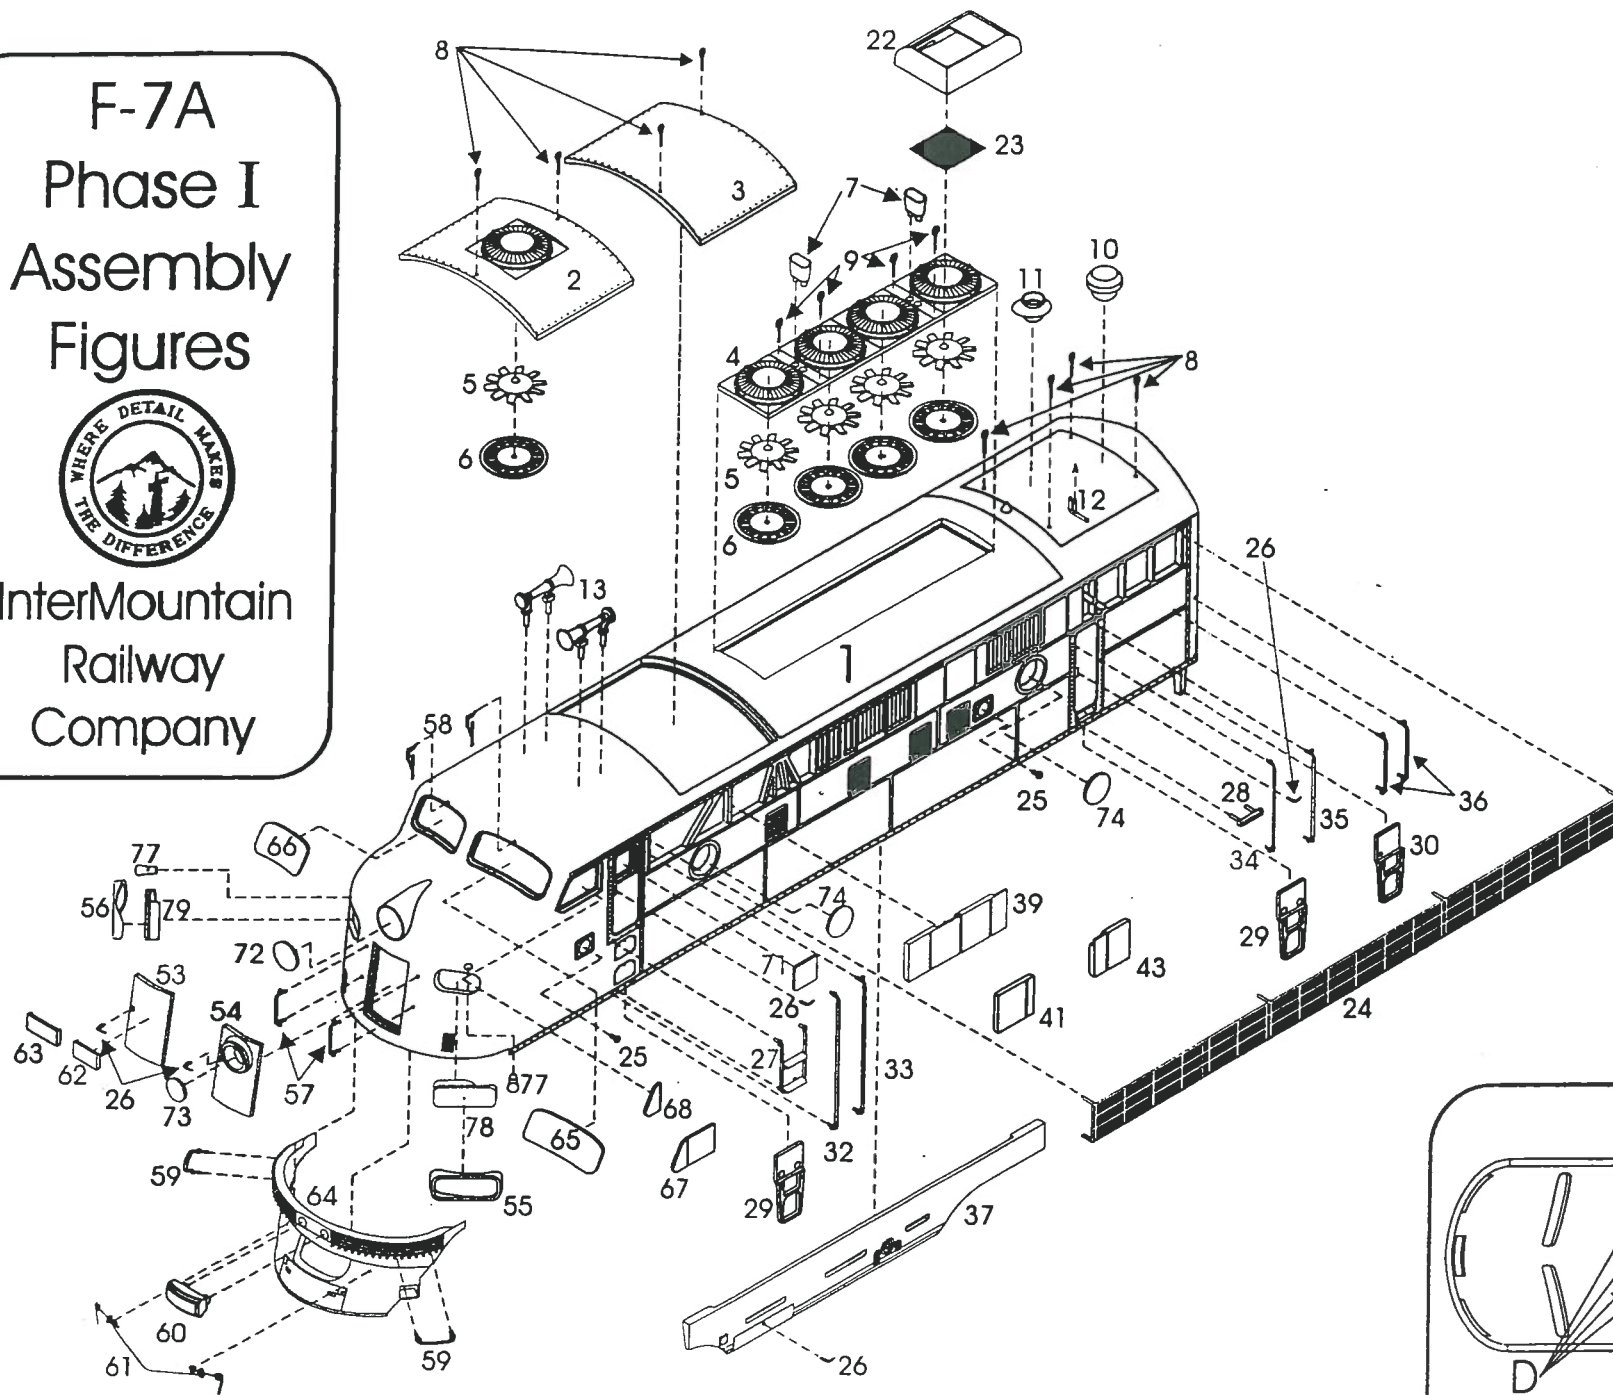

Fig. 1: Exploded View
2. Remove the Pilot (64) from its runner, and install the pilot **Buffer** (60) in the two locator holes in the top center of the front of the pilot. Mount the pilot assembly **on the body** as shown in Figure 1. Be sure to test fit before gluing.
3. Assemble the Fan Housing (4) by installing the Fan Blades (5) and Fan Blade Retainers in the fan housing. One side of the fan blade hub extends out from **the blades**. This is the side that is inserted into the fan housing. Turn the fan housing upside down **and insert** the fan blades. Place the fan blade retainers over the fan blades and glue in place. **Remove any existing flash** from the edges of the fan housing opening on the body, test fit the fan housing **assembly**, and glue in place.
4. Determine whether you are going to use dynamic or non-**dynamic** brakes on your model. Remove the appropriate hatch (Dynamic Brake Hatch (2) or Non-**dynamic** Brake Hatch (3)) from the sprue. If your model has dynamic brakes, install the fan blade **and fan blade retainer** using the method described in step 3. Test fit the brake hatch and glue in **place**.
a. Non-dynamic brakes - Install the two Large Panels (39 and 40) in the center of the forward side openings of the body, referring to Figure 1. Align the grooves **on the backs** of the panels with the reinforcing ribs in the openings on the body.
6. Install Left Skirt (37) and Right Skirt (38) on the body, using **the locating** notches on the low inside of the body. The long wheel cutout on each skirt is to the **rear of the body** and the short cutout is to the front. (The wedge shaped protrusions at the two **ends of** the skirts are designed to mount the locomotive on a Stewart/Kato drive. If you are going **to use** an Athearn drive, these wedges must be removed. The body then mounts on an Athearn **drive** using the center slots in the skirts.)
7. Determine which Nose Door (53 or 54) is used on the **prototype** you are modeling, and install in the door opening in the nose. (See Figure 1).
8. Determine whether the Rear Door (45 or 46) on your **prototype** has a round window or square window, and install the appropriate door in the door opening **in the rear** of the body. Install the End Post Assembly (47) around the rear door using the six locator **holes in the rear** of the body. (Typically, rear doors with square windows were used until October, 1950. After this, rear doors with round windows were usually used.)
9. Install two Exhaust Stacks (7) in the locator holes in the fan housing, one between the first and second fans, and the other between the third and fourth fans.
10. Install side sill steps (or "stirrups") in the six locator notches on the inside lower edge of the body. Note that four of the Center Side Sill Steps (29) are to be installed in the two front and two center positions. Position the Left Rear Side Sill Step (30) and the Right Rear Side Sill Step (31) so that the notches face to the rear of the locomotive.
11. Determine if the prototype you are modeling has a Winterization Duct (22). If so, install the Winterization Duct Grate (23) inside the winterization duct and then install the winterization duct assembly over the rear fan.
12. Install the Rear Door Grab (48) using the two locators to the right side of the rear door. Install Door Safety Gate (49) using locator hole on left side of rear door. Door safety gate may be installed in vertical (open) or horizontal (closed) orientation. It's your choice. Install two Rear Grabs (51) using the two locator holes on either side of the rear of the unit.
13. Install the two horizontal Pilot Anti-Climber Grab Irons (59) using the two locator holes on either side of the top of the pilot. (Please note that the pilot anti-climber grab irons are curved to follow the contour of the pilot.) Install the two vertical Nose Door Grab Irons (57) using the two locator holes on either side of the nose door. The locators during installation of the nose door grab irons should be exactly horizontal. Be careful, it is possible to install these grab irons upside down. If your prototype has a front Number Plate (62 or 63), install appropriate number plate in correct location.
15. Install six Small Eye Bolts (8) using two locator holes in the brake housing and four locator holes in steam generator panel. Install four Large Eye Bolts (9) using locator holes in fan housing.
16. Install two Small Side Door Steps (28), one beneath each rear side door (or "side access door.") Install two Large Side Door Steps (27), one beneath each front side door (or "cab door.")
17. Install a Left Long Grab Iron (32) and a Right Long Grab Iron (33) on the correct side of the two cab doors. The upper mounting brackets for each of these grab irons point out slightly at an angle away from the door. The lower mounting brackets are "square". Install a Left Medium Grab Iron (34) and a Right Medium Grab Iron (35) on the correct side of the two side access doors. The upper mounting brackets for each of these grab irons point out slightly at an angle away from the door. Install two Short Grab Irons (36) in the locator holes above the rear stirrup on each side of the locomotive body.
20. Identify Left Number Board (78) and Left Number Board Housing (55) on their parts sprue from the parts drawings. These parts are identified by an "L" on the tabs attached to the runner adjacent to the part. Remove these two parts from their sprues and install the number board in the housing. Mount the left number board assembly in the opening provided on the left side of the nose of your locomotive. (The "thick" end of the housing and the number board are to be installed towards the center of the nose.) Follow this same procedure with the Right Number Board (79) and Right Number Board Housing (56).
21. Remove the Rear Uncoupling Rod (50) from the parts sprue and install it using the locator holes provided on the back of the body. Using the same procedure, install the Nose Uncoupling Rod (61) on the nose of the locomotive. (Part 61 is not used on units with a "passenger pilot.")
22. After carefully removing the clear plastic parts (Parts 65-77) from their parts sprue as described above, install them in their appropriate locations as shown in Figure 1.
23. Install the two Windshield Wipers (58) using the locator holes just above the windshields.
24. Carefully remove the excess metal from the Etched Metal Grilles (24), being sure to leave the eight "tabs" in place. These tabs are used to mount the grille to the locomotive body. Inspect the grille to determine which side has "shiny" vertical supports. This side faces inward when installed. The outside vertical supports have been etched to produce a more realistic look. Bend the eight "tabs" to ninety degrees, and place them in the locator holes. The grilles are symmetrical and therefore can be installed on either side of the locomotive in either direction. Bend the tabs down from the inside of the body to hold the grilles in place. The grilles were not painted on the prototype locomotives, therefore should be left in their natural state.
25. The use of the Coupler Centering Device (52) depends on the drive unit you use with your locomotive. It may have to be modified with some drive units, or, if used, may require that the rear coupler be installed after the locomotive body is placed on the drive unit.